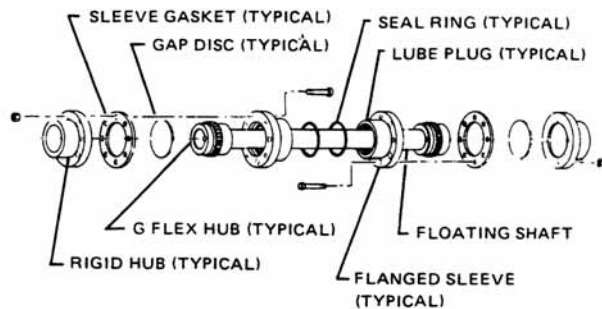

Figure 16. Falk Double Gear Coupling - Horizontal
- (d) Refer to Figure 16. Measure the length of the floating shaft. Adjust the driver so the distance between driver and gearbox shaft ends is greater than the length of the floating shaft by the sum of the end gaps specified in Table 5.